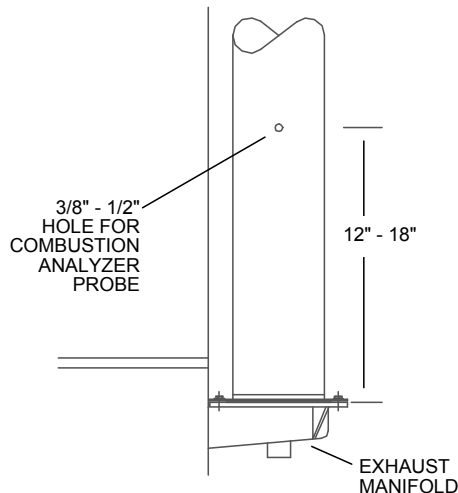

Figure 4.2
1. If the unit has been installed using the recommended AL29-4C vent, there will be a 3/8" hole, 18" to 24" above the exhaust manifold. The outer vent section, that covers vent section connections must be loosened and slid down to uncover the hole (see Fig. 4.2).